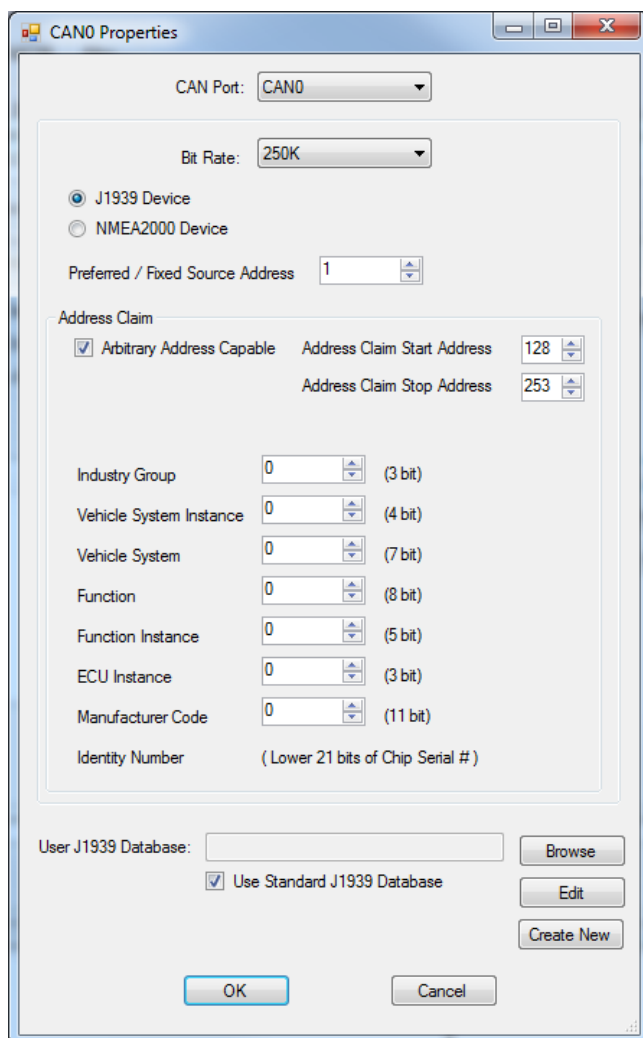

Figure 2-51 - CAN / J1939 Properties
- Enter the setup information for the OptiCAN network. Refer to Figure 2-51.